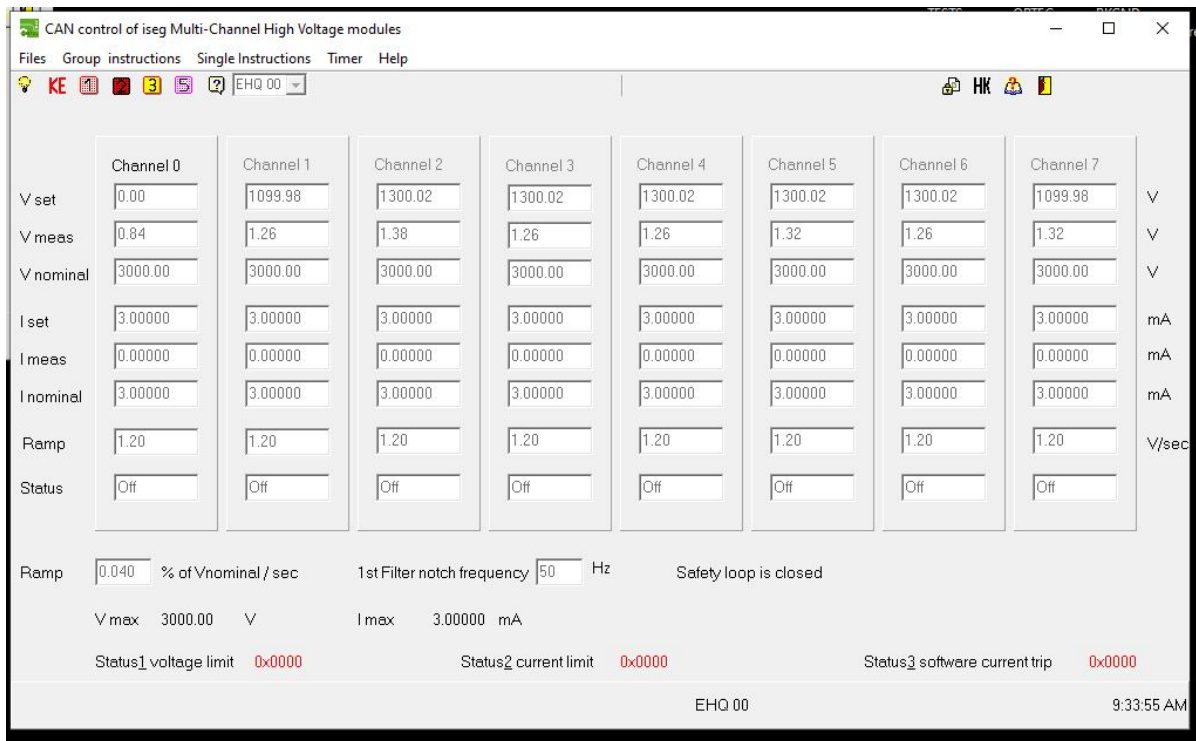

Figure 22. iSEG Multi-Channel High-Voltage Modules; EHQ00.
7. Click on the **EHQ00** and **EHS01** modules. A window opens for each module (Figures 22 and 23). Check the following items: